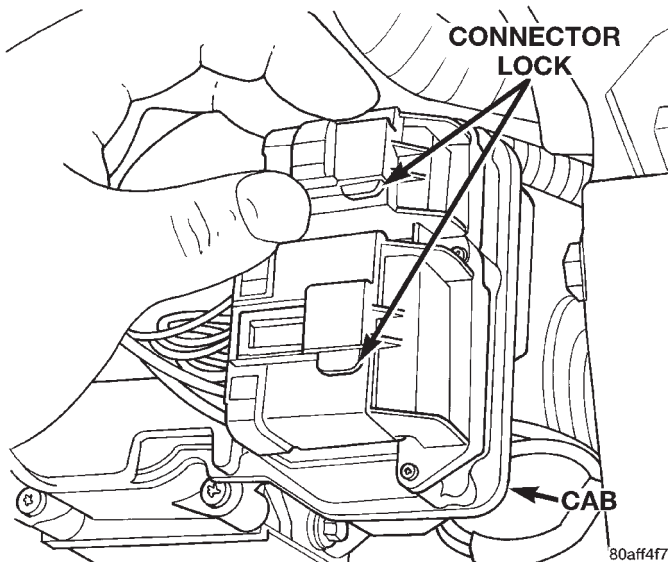

Fig. 3 Harness Connector Locks
- (1) Disconnect battery negative cable.
- (2) Push the harness connector locks to release the locks, (Fig. 3) then remove the connectors from the CAB.
- (3) Push the harness connector locks to release the locks, (Fig. 3) then remove the connectors from the CAB.